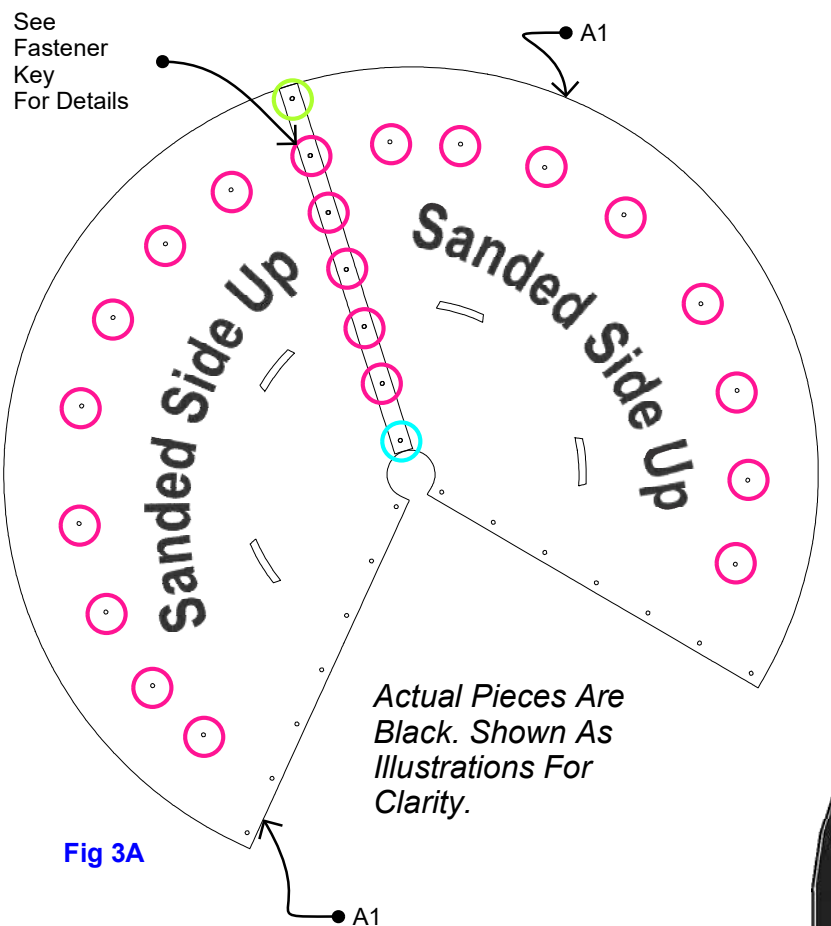

Fig 3A
**A** First connect halves of inner cone referencing Fig 3A below and fastener key to the right. Have the sanded side facing up.